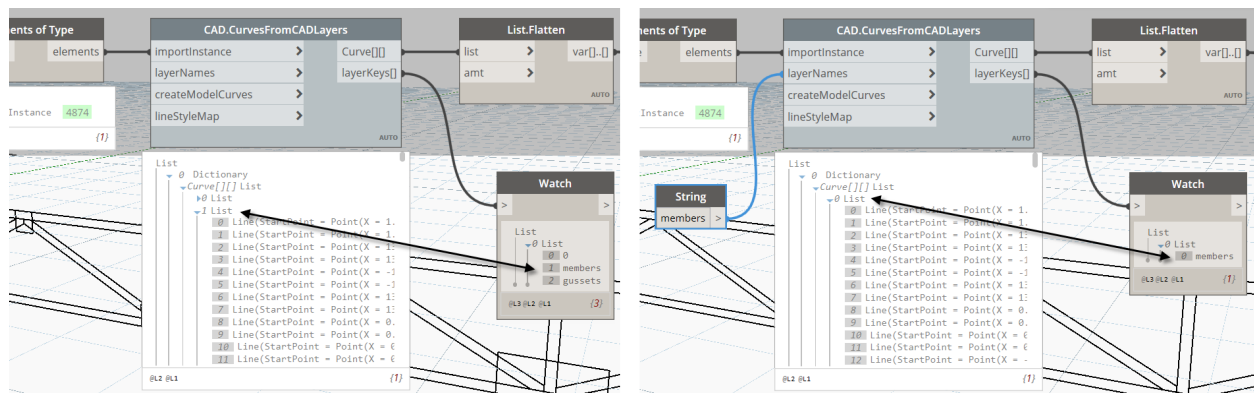

FIGURE 80
The **CAD.CurvesFromCADLayers** node is from the **BimorphNodes** package. It has four inputs but notice that we only have importInstance wired up. The layerNames, createModelCurves and lineStyleMap ports are optional. If you hover your mouse over the other inputs, they give information on what these optional inputs do. Look at the output from the **CAD.CurvesFromCADLayers** node in its preview bubble. The node has two outputs: Curve and layerKeys. We have seen before that when you have multiple outputs, you get a structured list in the preview bubble. If you want to see each output separately, use a **Watch** node. You can see the output from the layerKeys port in the **Watch** that was included in the graph. Look at the output on the preview bubble and notice the structure of the list (see the left side of Figure 80). It outputs a dictionary with two keys: Curve and LayerKeys. These correspond to the two outputs on this node. Each dictionary key in turn contains three sub-lists; one for each layer in the import. While this is potentially useful output, keep in mind that we are only interested in the members layer. And while there are easy ways to extract just this information from the resultant lists, the **CAD.CurvesFromCADLayers** node offers an input that allows us to specify just the layer(s) we want. All you need to do is feed in a string into the layerNames input.
7. Add a **String** node, input: members and then wire it into the layerNames input. Run the graph and compare the results (see the right side of Figure 80).